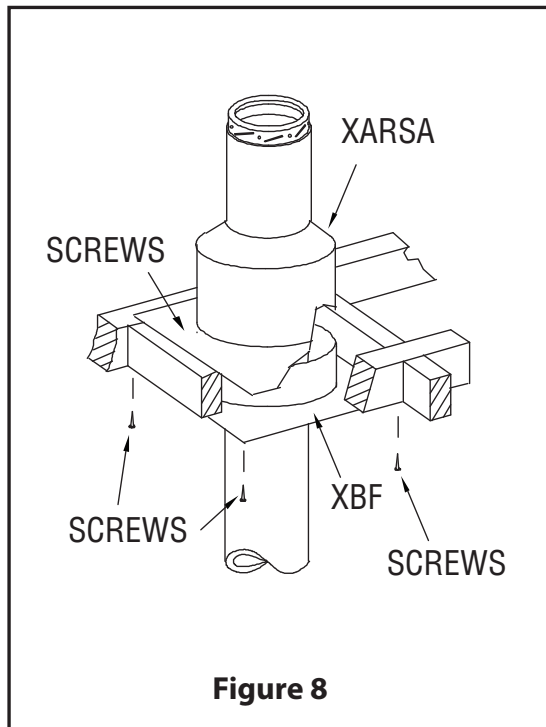

Figure 8
Step 7. At the attic level, install a Firestop (XBF), from below and an Attic Radiation Shield (XARSA) and Storm Collar from above (see Figure 8).